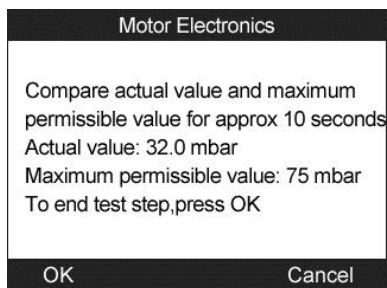

Figure 13-42
- d) Check the exhaust backpressure with engine running at 2000 rpm. The tool will read off the actual backpressure value and compare with the upper limit. (Figure 13-42). Select **OK** to continue the test or **Cancel** to return to previous menu.